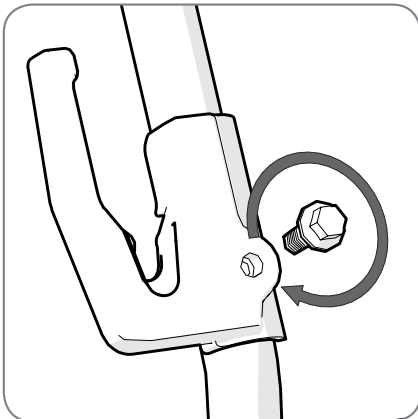

Fig. 5
- Remove the two attachment bolts. (Fig. 5)